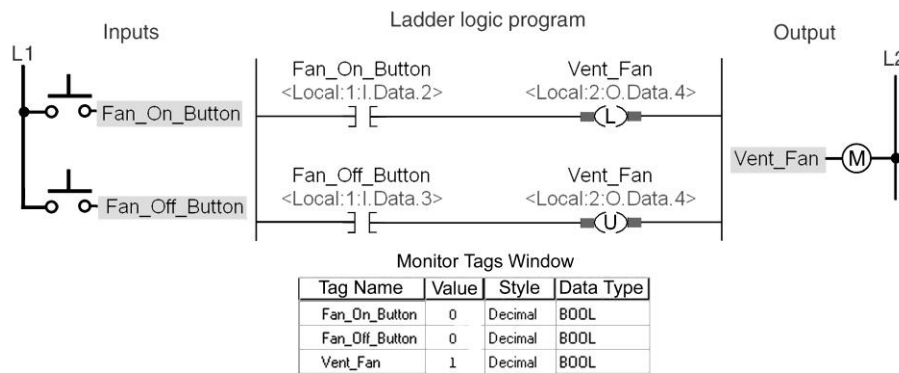

Figure 15-10
15. For the latch/unlatch program of Figure 15-10, what would the value of the tags be after momentary actuation of the Fan_Off_Button?
- a) Fan_On_Button (0), Fan_Off_Button (1), Vent Fan (0)
- b) Fan_On_Button (0), Fan_Off_Button (0), Vent_Fan (0)
- c) Fan_On_Button (1), Fan_Off_Button (1), Vent_Fan (0)
- d) Fan_On_Button (0), Fan_Off_Button (1), Vent_Fan (0)